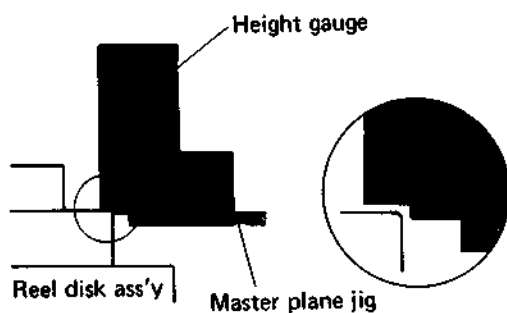

Fig. 5-19 Reel disk height adjustment-2
3. The correct height is between planes A and B, as shown in Fig. 5-19. If it is necessary to adjust the height, add or subtract the required number of height adjusting washers.